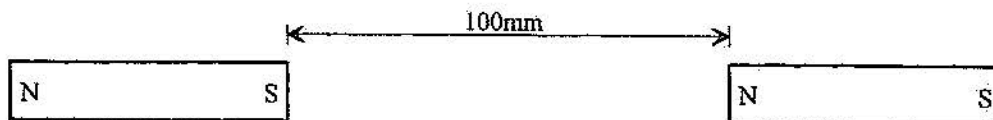

Figure 7
1. Place two rectangular bar magnets approximately 100mm apart on the bench, as shown in figure 7. The magnets must be arranged to have **unlike poles** facing.